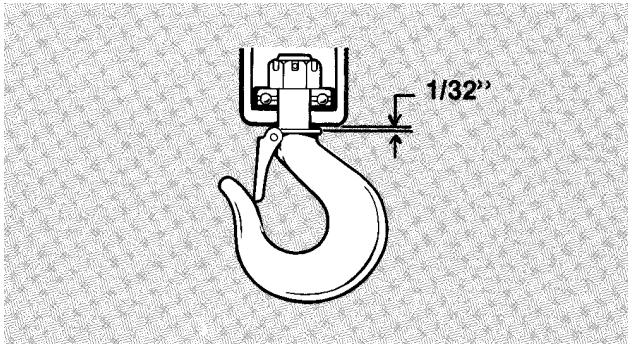

FIGURE 15. Hook Mounting
**Hooks.** Both upper and lower hooks must be free to swivel. Those that are held by nuts must be adjusted to provide 1/32" clearance as shown in Figure 15 before the hook nut pin is inserted.
**Lower Hook Thrust Bearings.** The 1/4 thru 6 ton lower hook thrust bearings are mounted with the outer shell down (see Figure 15).